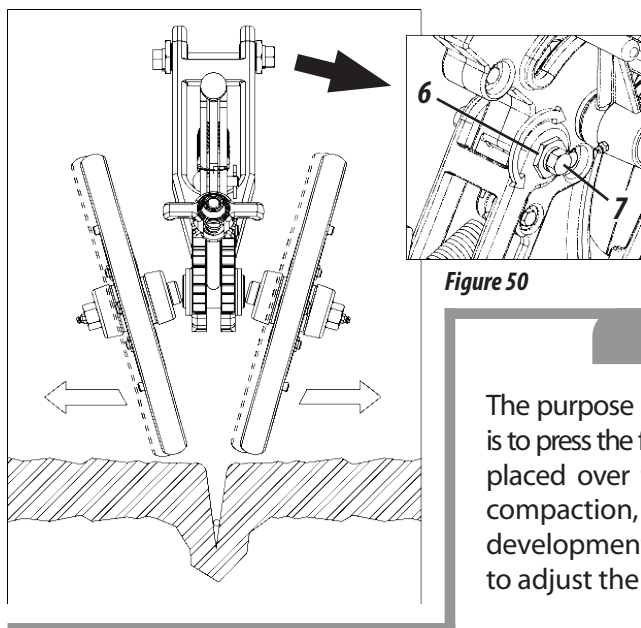

Figure 50
- 1- Loosen the screws (7), turn these bushings (6), using a wrench for adjusting the wheels and then aligning them to the furrow, so that a larger or smaller amount of soil is laterally placed over the seed, **as shown in figure 50.**